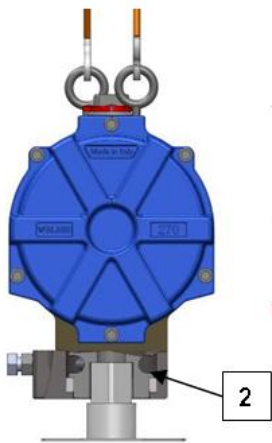
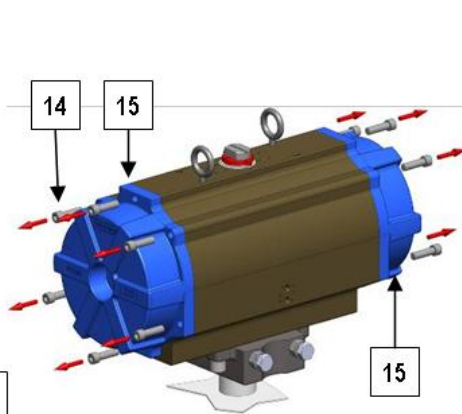

Fig.6
Fig.7
4. Place the actuator on a support with a square of the same size of the pinion ( 2 ) so as to easily execute the below listed operation (see Fig. 6);
5. Before disassembling the actuator **check** from the label on the body whether it is a double acting (DA) or spring return (SR) type;
6. For **DOUBLE ACTING ACTUATOR** : Unscrew in crossed sequence the screws ( 14 ) for fastening the end caps ( 15 ), see Fig. 7 ;
For **SPRING RETURN ACTUATOR** : Unscrew **GRADUALLY** in crossed sequence the screws ( 14 ) for fastening the end caps ( 15 ), s. Fig. 7 ;